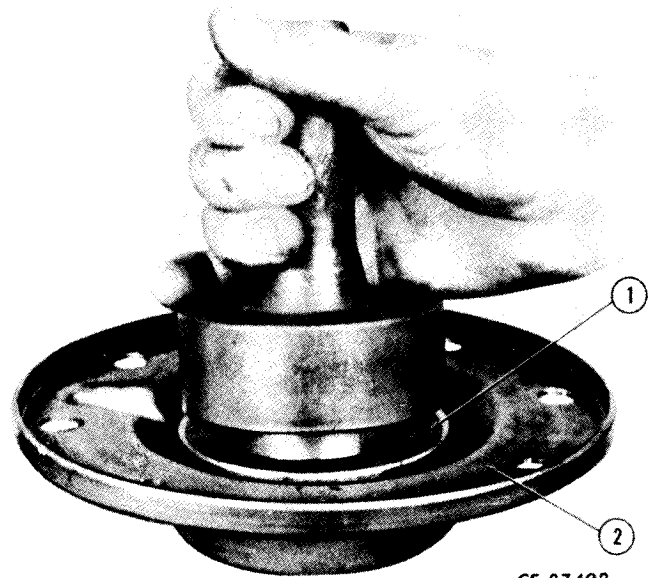

Figure 6-53
Lubricate the pinion shaft oil seal (1, Fig. 6-53). Coat the OD of the seal body with a non-hardening sealing compound. Install the seal in the pinion bearing cover (adapter) (2) using a suitable driver. Be sure lip of seal is toward pinion cage. Seal body must bottom on shoulder of bearing cover.